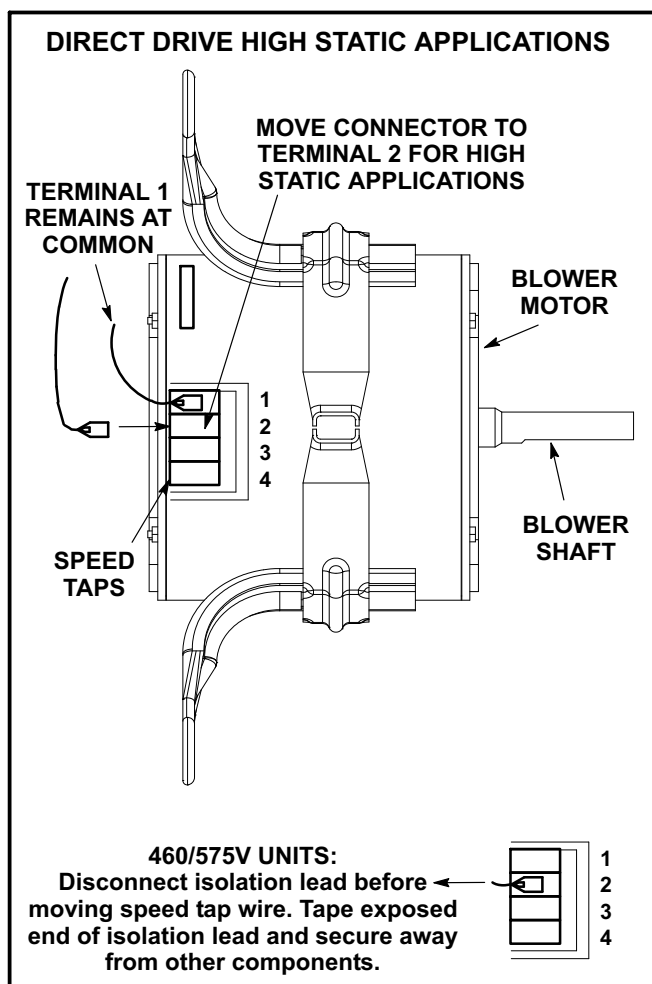

FIGURE 7
- 4- Use the blower tables starting on Page 8, the measured static pressure, and the factory-set blower speed to determine CFM. If CFM is lower than the design specified CFM, move the lead from speed tap 3 or 4 to speed tap 2. See figure 7.